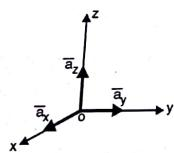

Fig. 6.1.3 : Unit vectors
- Unit vectors in Cartesian system are  $\bar{a}_x$ ,  $\bar{a}_y$  and  $\bar{a}_z$ . These vectors are in the positive x, y and z directions as shown in Fig. 6.1.3. Instead of  $\bar{a}_x$ ,  $\bar{a}_y$  and  $\bar{a}_z$  many times different notations are used like or  $\hat{a}_x$ ,  $\hat{a}_y$ ,  $\hat{a}_z$ .